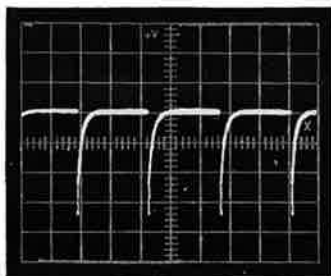

Fig. 2. Avalanche volts
3. Set TRIGG. on PM 3419 B to position FREE RUN and a display as in fig. 2 is shown.